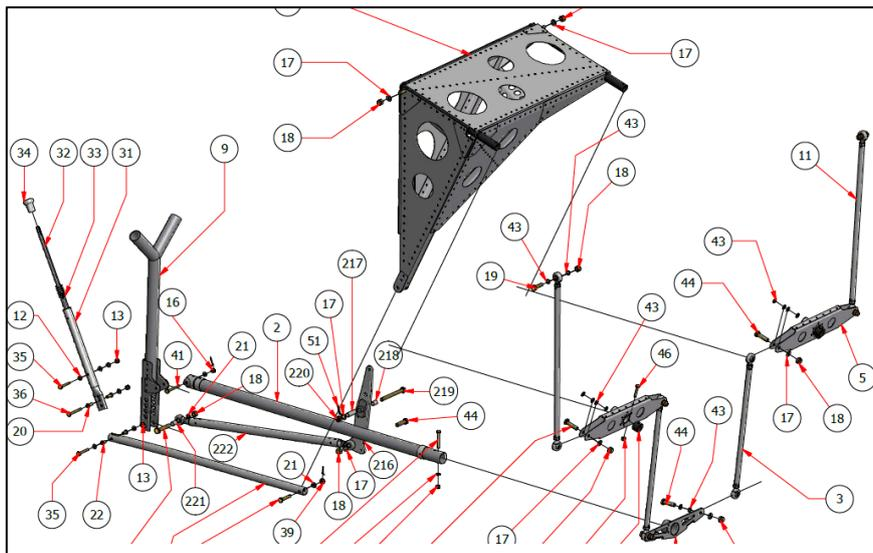

Figure 21: Longitudinal and lateral controls
**LATERAL:** the Flaperon are connected entirely by means of push-pull rod, which +/-15.5° of rotation. The flap function is assured by the mechanical mixer shown in *Figure 21*, with 27° of down rotation.